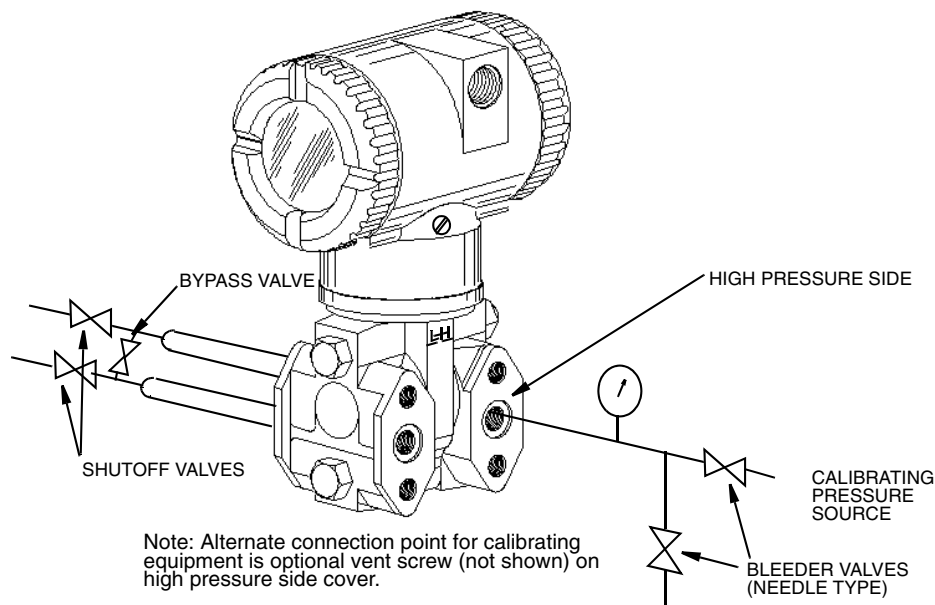

Figure 35. Field Calibration Setup
To set up the equipment, refer to Figure 35 and use the following procedure.
4. Complete the setup shown in Figure 35.